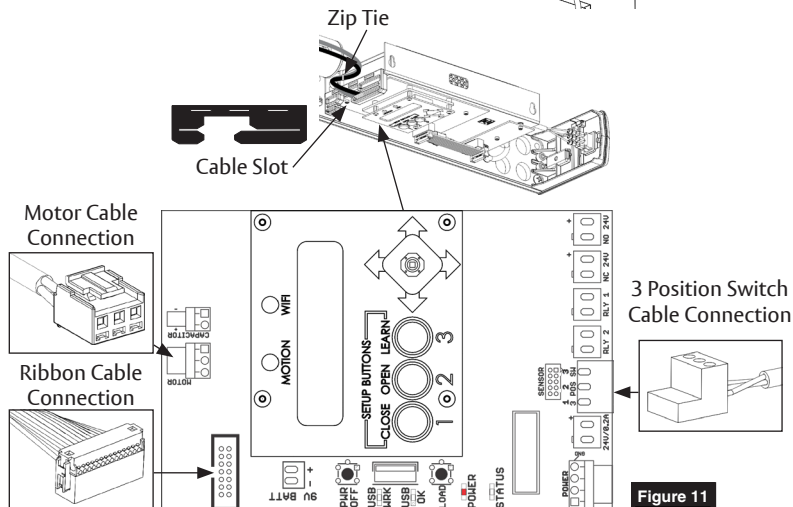

Figure 11
4. Plug motor and ribbon cables from closer body into power supply. (Figure 11)
- Use slot in power supply to feed connectors to board. (Figure 11)
- Use provided zip ties to manage any excess cable between closer and power supply so that cover can be attached without damaging cables. (Figure 11)
5. Connect switch to power supply. (Figure 11)